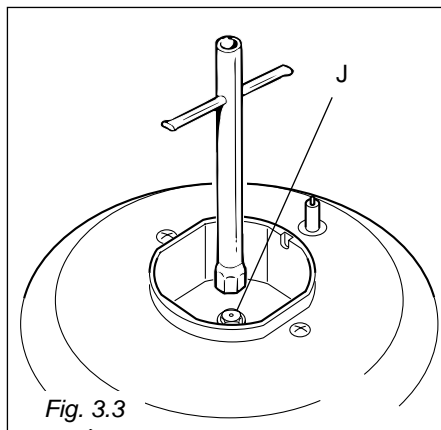

Fig. 3.3
- Using a wrench, substitute the nozzle injectors “J” (fig. 3.3, 3.4) with those most suitable for the kind of gas for which it is to be used.